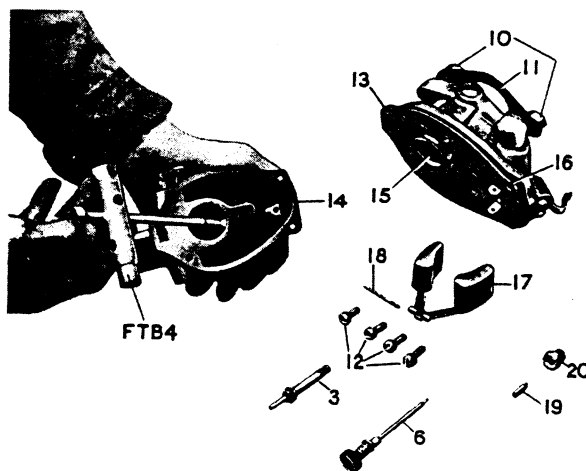
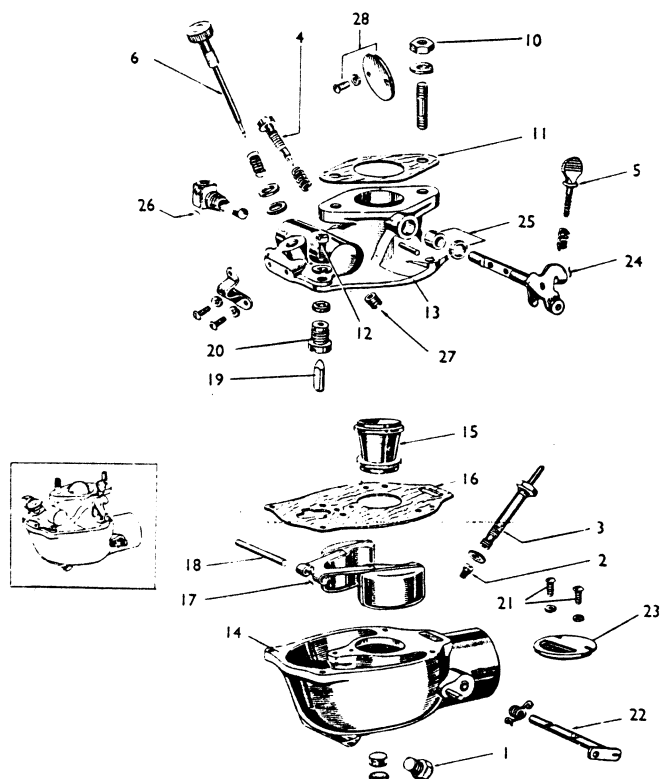

FIG. 15
FIG. 16
This should be carried out when the engine is hot, the minimum running speed usually being set at 400 — 450 r.p.m. by adjustment of screw (5), Fig. 16, on throttle shaft arm. The head of this screw should be turned clockwise to increase the idling speed and vice versa.
1. Offer the carburetter, with gasket (11) fig. 16, to the manifold flange, locating the choke control rod in the bulkhead.
2. Tighten nuts (10) evenly on studs in carburetter flange.
## To Dismantle Carburetter. Fig. 15 and 16.
A special combination tool which is illustrated in fig. 15. has been designed to fit all jets and nuts on the carburetter, Fig. 16. Its use is highly recommended, especially for the withdrawal of the main jet.